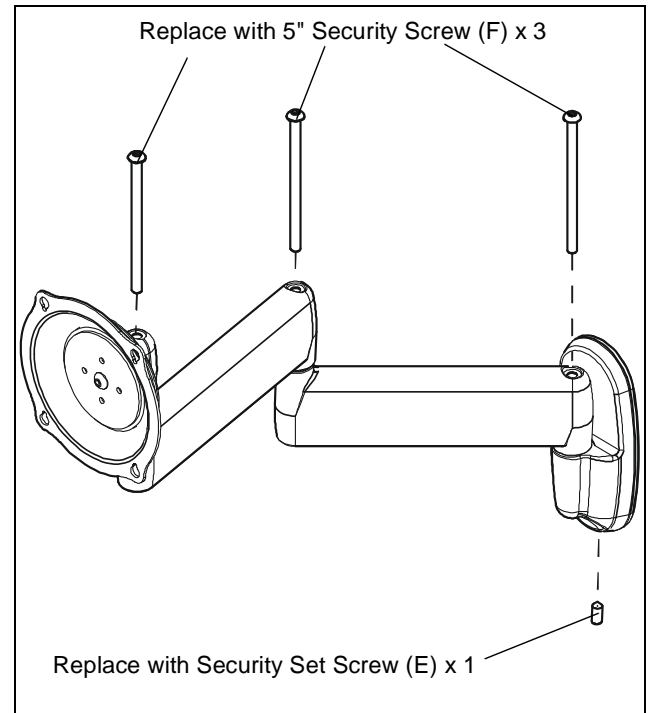

Figure 2
3. Remove three existing fasteners on medium flat panel mount (dual arm assembly shown for reference) and replace with three 5/16-18 x 5" button head security screws (F). (See Figure 2)
4. Replace the set screw with the 5/16-18 x 3/4" security set screw (E). (See Figure 2)